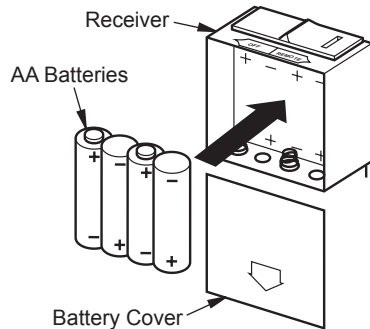

Figure 5 - Installing Batteries in Receiver
2. Remove battery cover on receiver and install batteries as shown in Figure 5. Replace battery cover.